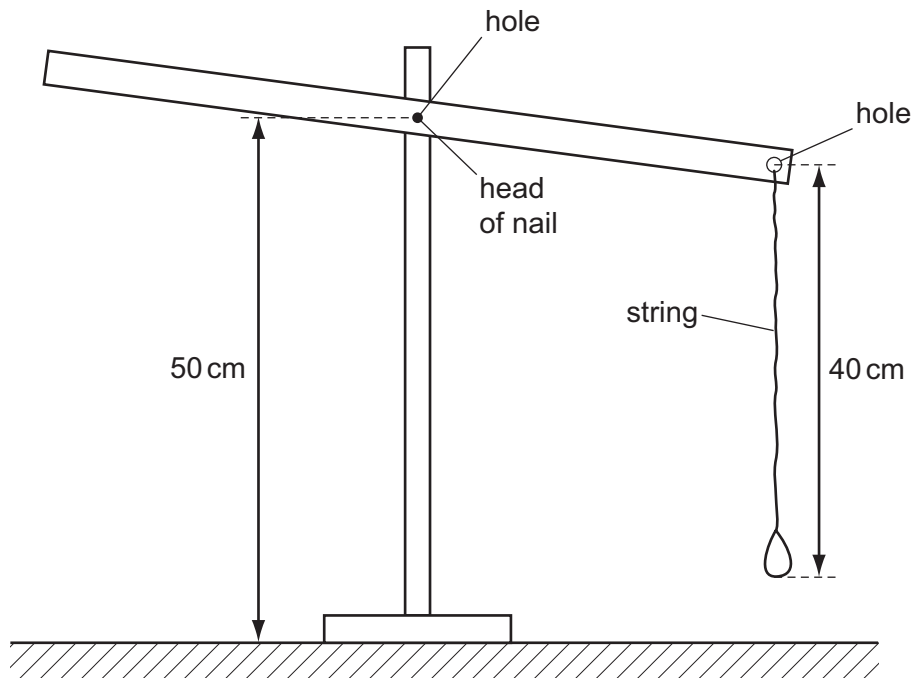

Fig. 2.1
- 2 The metre rule should be pivoted on the nail, which should be firmly mounted in a boss 50 cm above the bench, as shown in Fig. 2.1. Ensure that the metre rule can swing freely and that the head of the nail prevents the rule falling off.